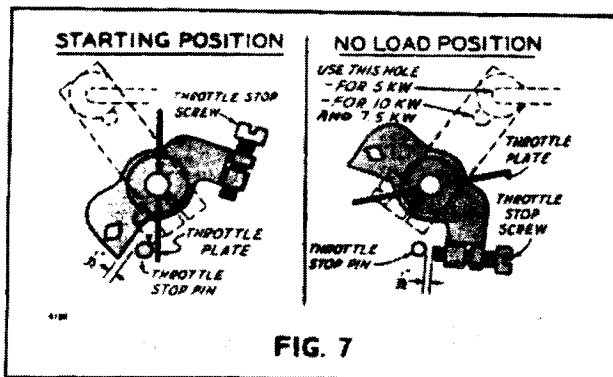

FIG. 7
1. With the plant stopped, the clearance between the carburetor stop lever should be approximately $1/32''$, Fig. 7. This clearance can be adjusted by turning the ball joint on the link.